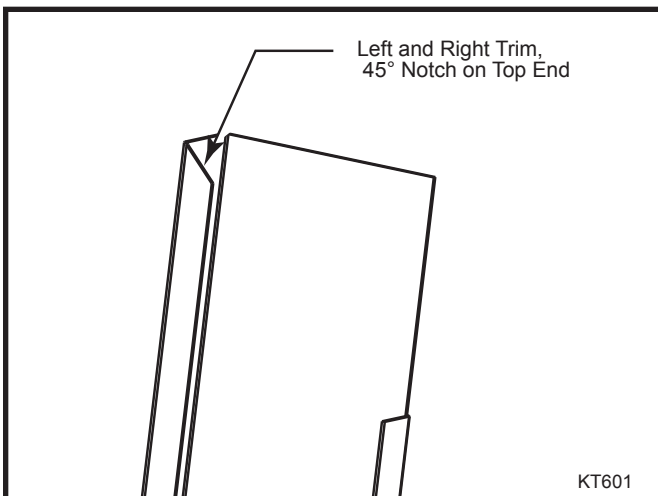

Fig. 52 The right and left trim pieces have a 45° notch on the back corner of the top end when properly installed.
2. The right and left trim piece have a 45° notch on the back corner of the top end. (Fig. 52) Place the right trim against the right side of the window frame, making sure the bottom is overlapping the bottom trim piece. The right side of the trim should butt up against the right side nailing flange of the fireplace.